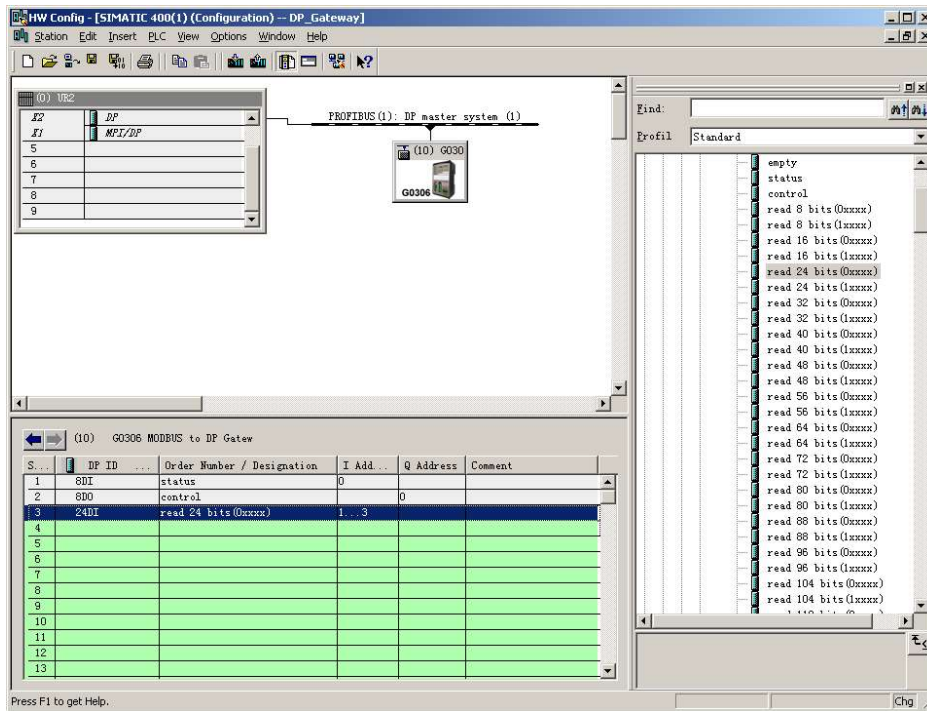

Figure 16 Add "read 24 bits(0xxxx)" module
a) Add the "read 24 bits(0xxxx)" module, as shown in Figure 16: